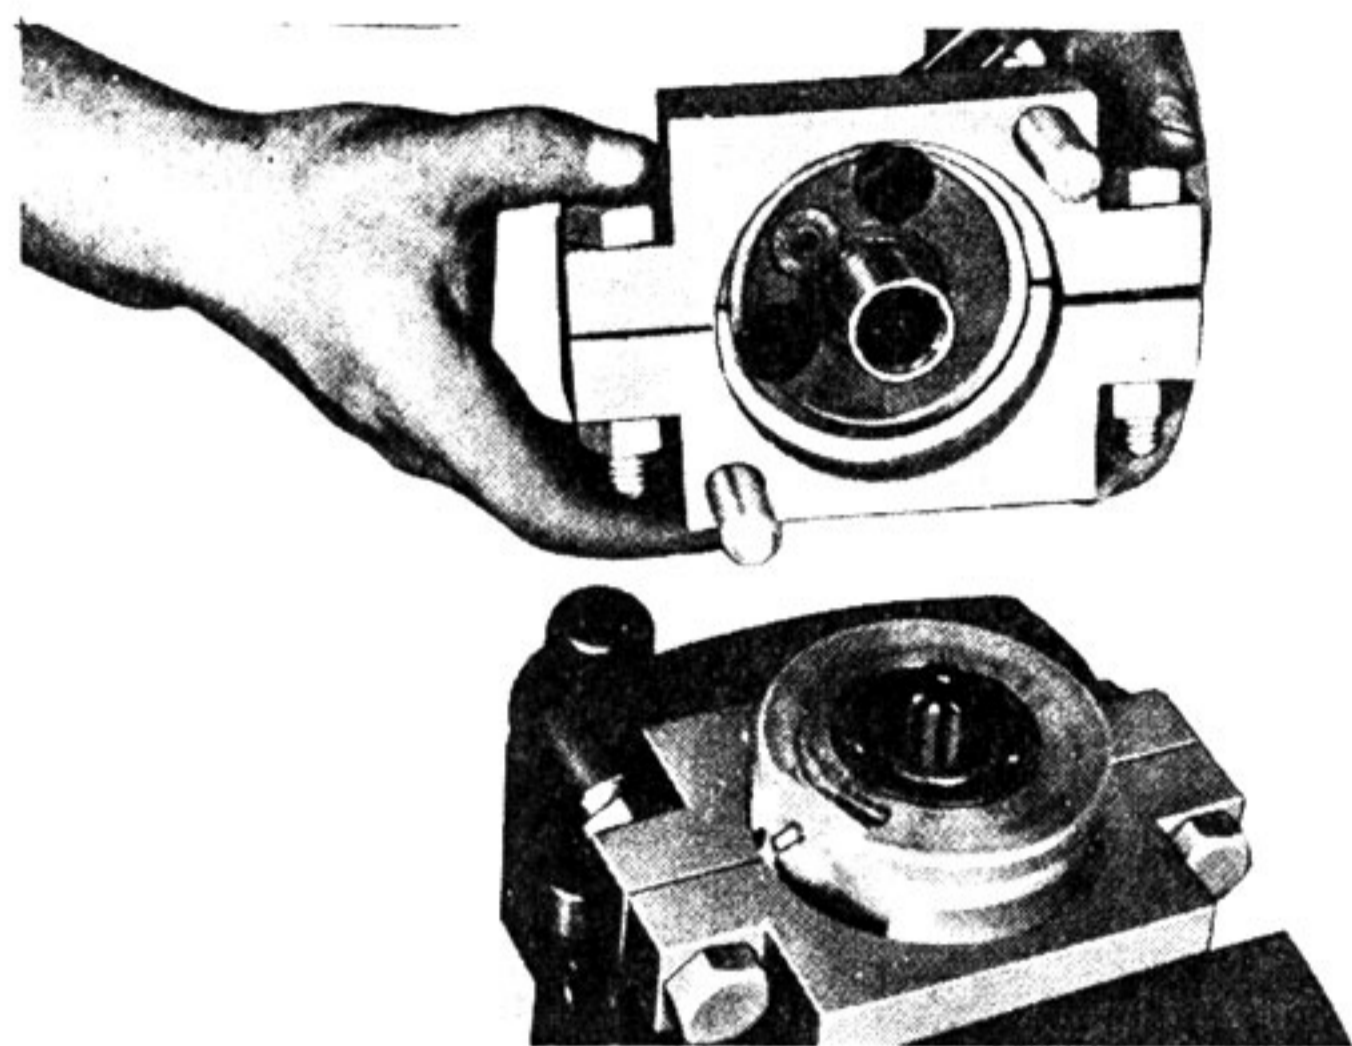

Fig. 4-17-9
(5) Fig. 4-17-9 shows the disassembled crankshaft ass'y. To remove the crank cover and bearing, use a press.